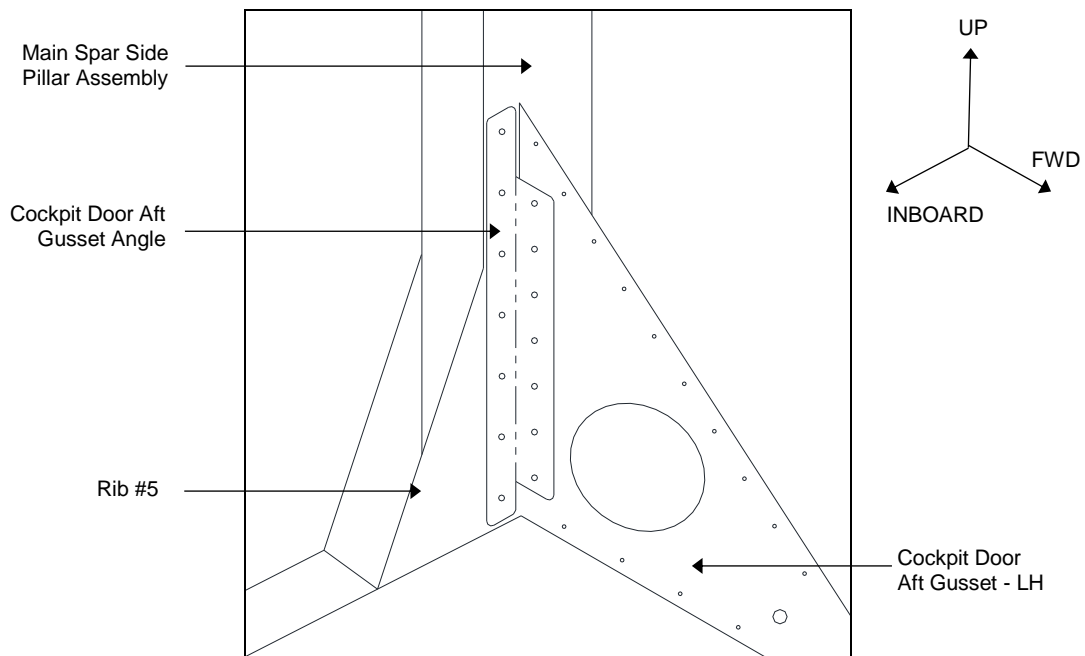

Figure 39: Cockpit Door Aft Gusset Angle attachment (LH shown, RH similar)
- 5) Match drill holes from the Main Spar Side Pillar Assembly into the Aft Door Gusset Angle and packer(s), using a #20 drill to a diameter of 0.161" ensuring 0.35", or greater, edge distance is maintained for all holes. (See Figure 39).
- 7) Back-drill holes from the Aft Door Gusset Angle into the Cockpit Door Aft Gusset using a #20 drill to a diameter of 0.161" ensuring 0.35", or greater, edge distance is maintained for all holes. (See Figure 39).